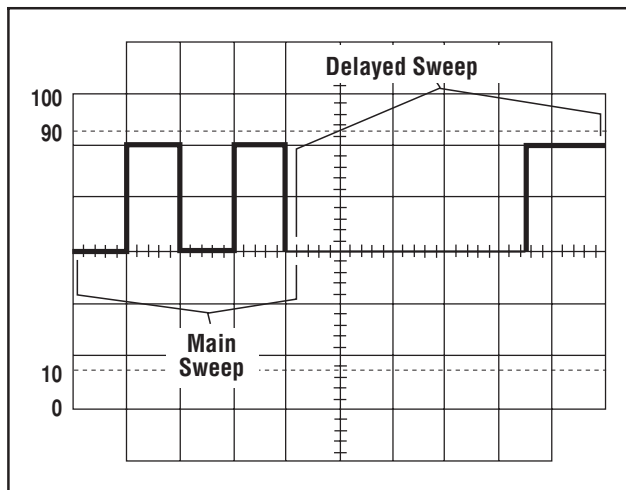

Fig. 5. MIX SWEEP MODE Display.
DELAYED SWEEP OPERATION (Model 2160A) (Refer to Fig. 5)
2. Set the **Sweep Mode** switch to the **MIX** position. The display will show the main sweep on the left portion (representing the **MAIN Time Base** control setting) and the delayed sweep on the right portion (representing the **DELAY Time Base** control setting). The **MAIN Time Base** portion of the trace usually will be brighter than the delayed time base portion. Fig. 5 shows a typical display for the **MIX** display mode.